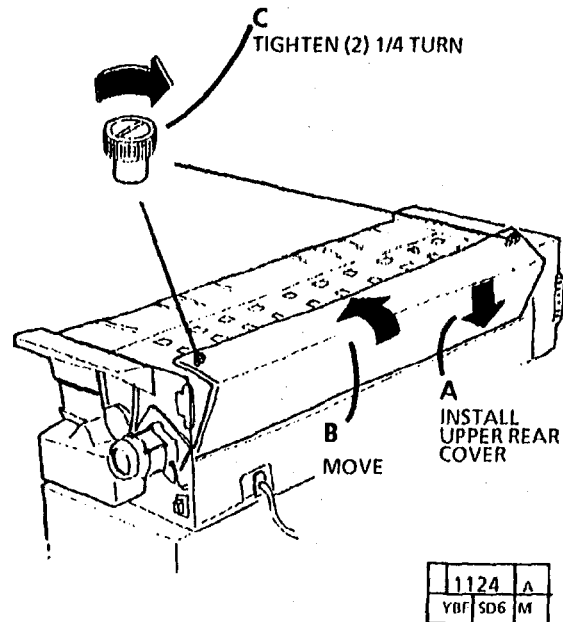

Figure 26. Installing the Upper Rear Cover
34. (Figure 26): Install the upper rear cover.